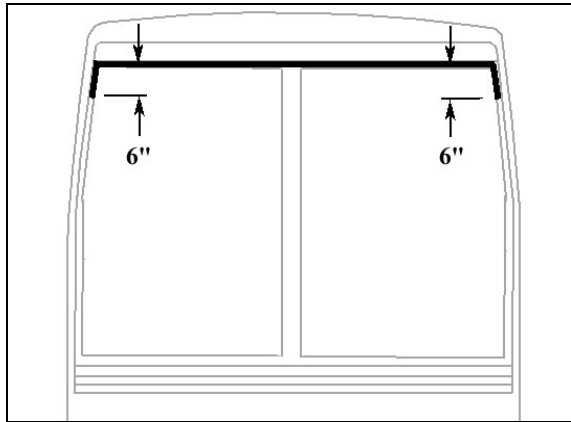

FIGURE 15: APPLICATION OF SIKA 221 BLACK
- At the top of windshield, clean surface between fiberglass and rubber extrusion using Sika 205 (Fig. 15).